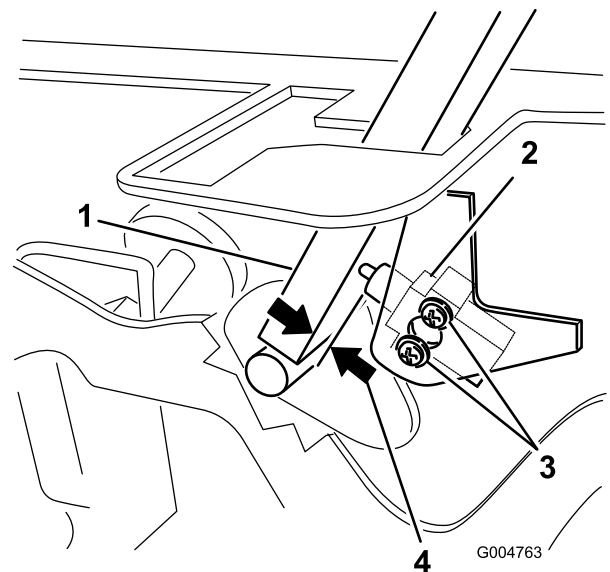

Figure 70
3. Loosen the 2 screws securing the interlock switch (Figure 70).
4. Holding the control lever against the frame, move the switch toward the lever until the distance between lever and switch body is 0.015 to 0.045 inch (0.4 to 1 mm) (Figure 70).